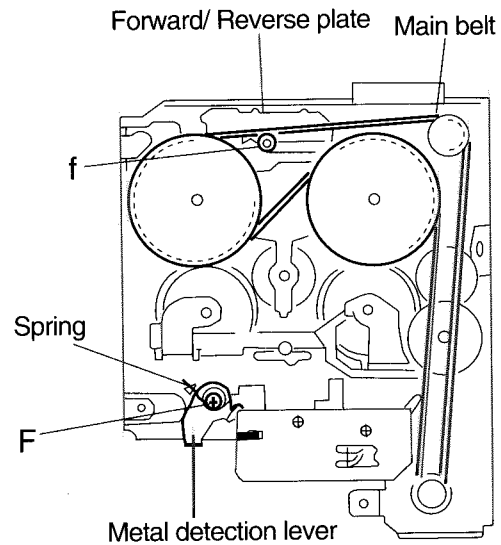

Fig. 8
■ **Removing the Head Plate (See Fig. 8,9)**
7. Remove the two screws F fixing the metal detection lever and removal spring as shown in Fig. 8.